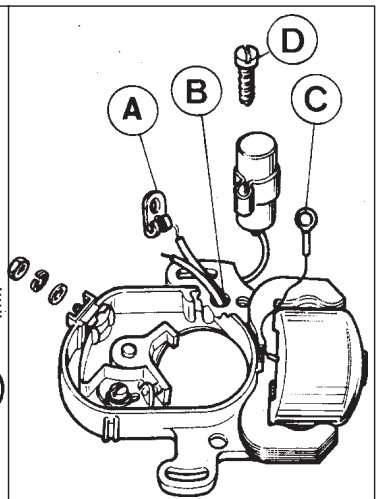

Fig. 14
- Disconnect all leads and unsolder terminal 'A' (Fig 14).
CONDENSER REPLACEMENT (Fig 14).